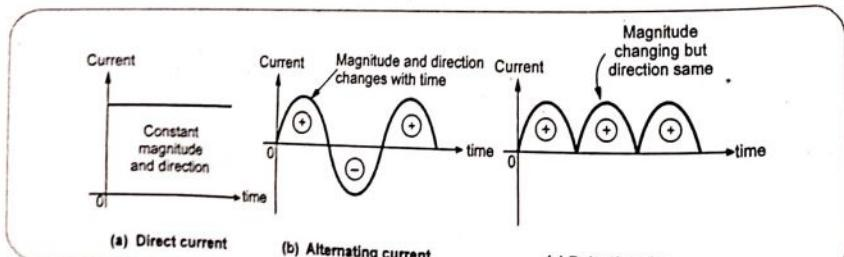

Fig. 2.1.1
- The d.c. supply has constant magnitude with respect to time. The Fig. 2.1.1 (a) shows a graph of such current with respect to time.
- In alternating waveform there are two half cycles, one positive and other negative. These two half cycles make one cycle. Current increases in magnitude, in one particular direction, attains maximum and starts decreasing, passing through zero it increases in opposite direction and behaves similarly. The Fig. 2.1.1 (b) shows a graph of alternating current against time.
- In practice some waveforms are available in which magnitude changes but its direction remains same as positive or negative. This is shown in the Fig. 2.1.1 (c). Such waveform is called pulsating d.c. The waveform obtained as the output of full wave rectifier is an example of pulsating d.c.